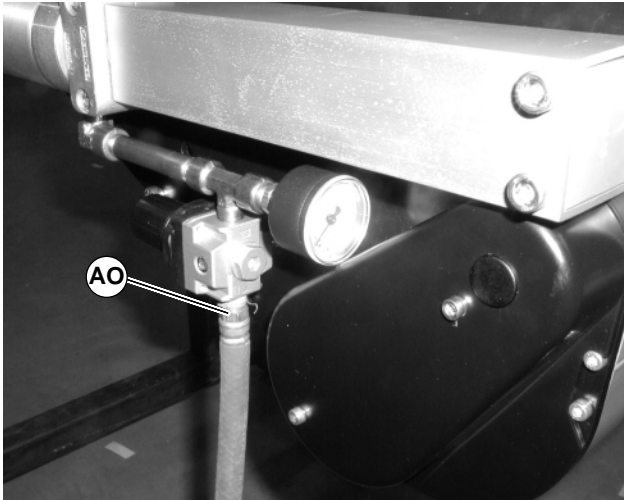

Figure 83
1. Remove air supply (AO of Figure 83) from center drive module.